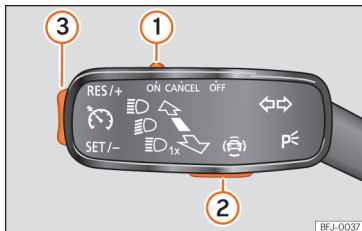

Fig. 175 On the turn signal lever: buttons to operate the speed limiter.
To change between the driving assistance systems, press button  »» Fig. 175 , then select with the right thumbwheel on the multi-function steering wheel in the instrument panel menu and press the thumbwheel to confirm your selection.
- Move control » **Fig. 175 ①** to position **ON** and press button **②**.
- While driving, press button » **Fig. 175 ③** in the area **SET/-**.
You can set the speed using button » **Fig. 175 ③**:
- Move control » **Fig. 175 ①** to position **OFF**.
If you want to temporarily deactivate the speed limiter, e.g. for overtaking, move the control » **Fig. 175 ①** to position **CANCEL** or press button **②**.
After overtaking, the speed limiter can be activated with the previously programmed speed by pressing button » **Fig. 175 ③** in the area **RES/+**.